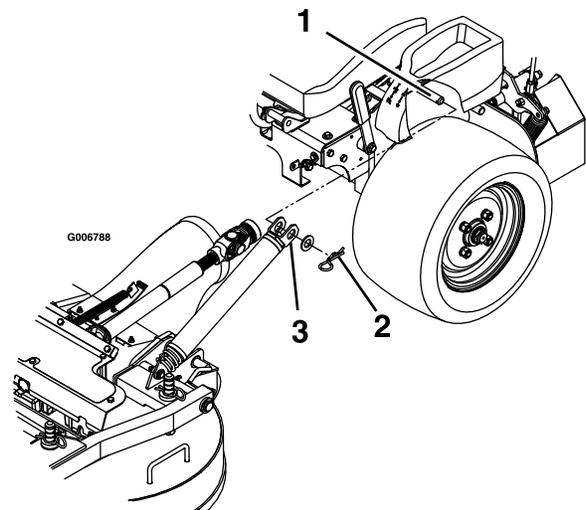

Figure 75
3. Remove the hairpin cotters and washers at the top of the deck-lift-assist spring on each side of the machine (Figure 75).
- Install the springs onto the spring anchor pins under the left and right consoles and secure it with a washer and hairpin cotter (Figure 75).